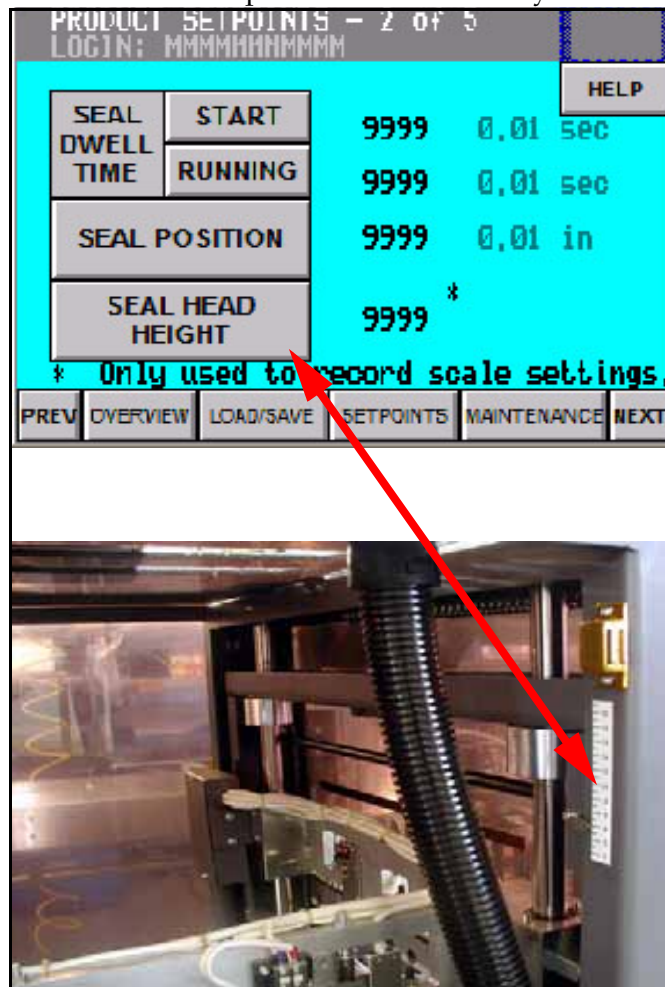

Figure 5-35. Seal Head Height
- 4 **SEAL HEAD HEIGHT:** Pressing this button will open a numerical menu that allows you to record the seal head height. Read the seal head height scale (refer to Figure 5-35), multiply this by 10 and enter the number. For example, if the scale reads “4”, then enter a value of “40”. Be sure to press the **RETURN** key after setting the height.